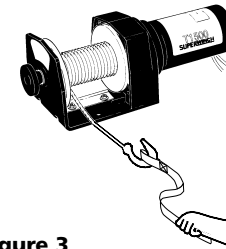

Figure 3
8. **KEEP CLEAR OF WINCH, TAUT WIRE ROPE AND HOOK WHEN OPERATING WINCH.** Never put your finger through the hook. If your finger should become trapped in the hook, you could lose your finger. **ALWAYS USE THE HANDSAVER** when guiding the wire rope in or out (See Figure 3).